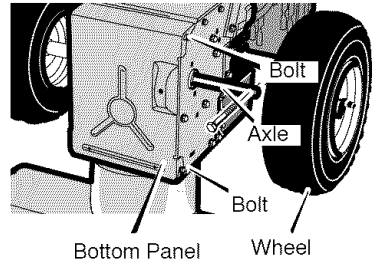

Figure 32
4. Remove the fasteners that secure the right **wheel**. Remove the **right wheel** from the **axle** (see Figure 32)
19. Install the **bottom panel** (see Figure 32).